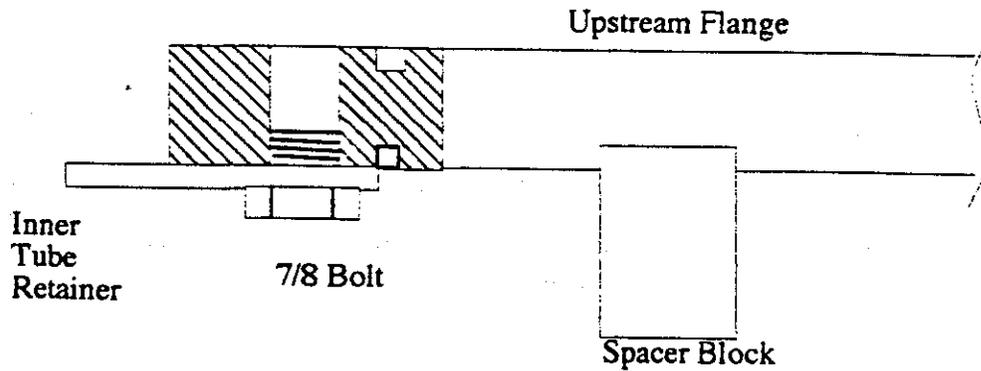

Fig. 1
4. Install the ten innertube retainers from the bottom of the upstream flange using the short five-eighths inch bolts. (See Figure 1) Ten of the holes have been tapped through to accommodate the bolts used to hold these in place.